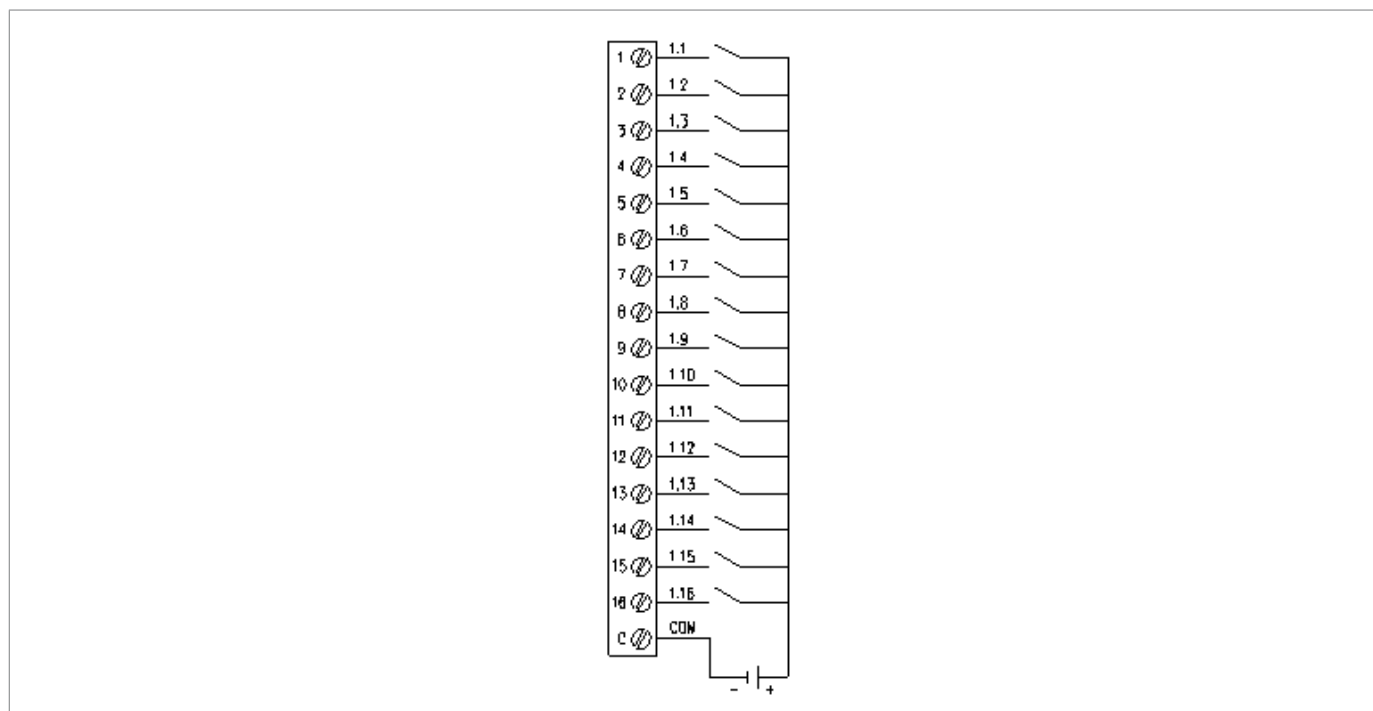

Fig. 4.7. Digital inputs connection
When connecting field instrumentation to the digital inputs, remember that these inputs are passive. The negative polarity of the field signal must be connected to the common terminal of the connector (C), while a positive voltage must be brought to the channel terminal in case of ON state, a zero voltage in case of OFF state, as shown in Fig. 4.7.